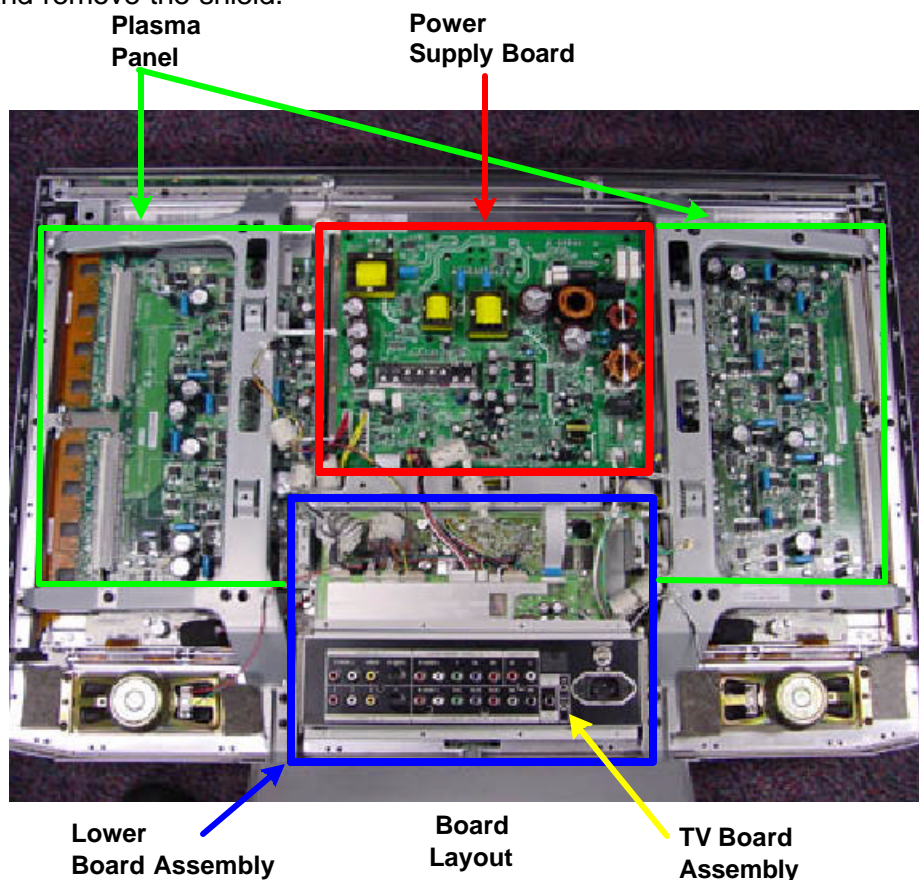

Figure 8-3 - Circuit Boards
- Mount the input connector cover that contains the AC socket (Figure 8-3).